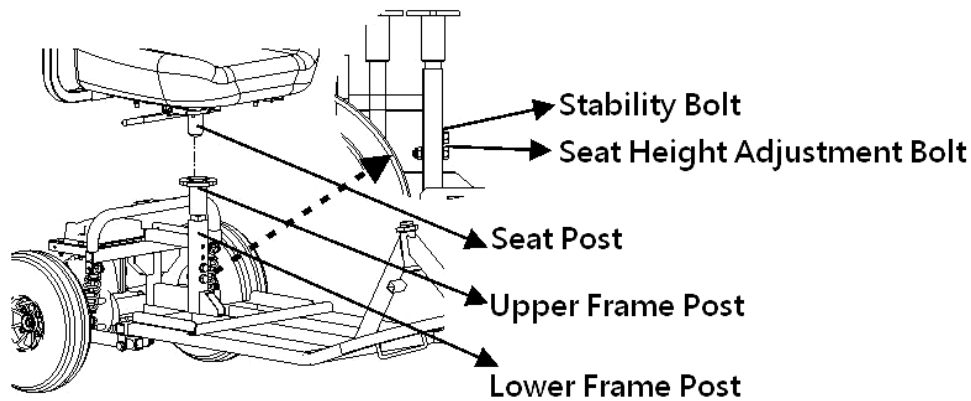

FIGURE 7.9
7.15.1 The frame post is comprised of the upper and lower frame posts. The upper frame post adjusts the height by sliding inside of the lower frame post and the two are secured through the connection of two hearty bolts. The top bolt is threaded and is designed for added stability. It only goes through the front side of both frame posts. The lower bolt goes all the way through both frame posts and sets the seat height. It is not threaded as it passes through the seat posts, but has a hex nut on the backside. The seat post rests in the frame post. There are four holes in the frame post to allow you to adjust the seat height to 18" (46 cm), 19" (48.5 cm) or 20" (51 cm). **(See Figure 7.9)**